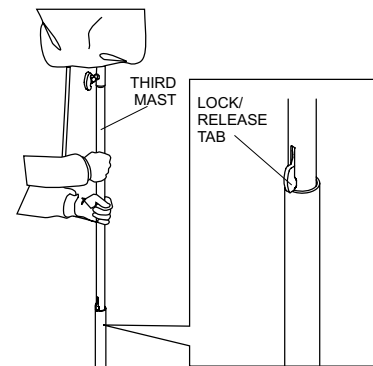

Figure 19. Raising the Third Mast
2. To raise the mast higher, raise the third mast until the lock/release tab pops out. The tab will automatically rest on the second mast. See Figure 19.